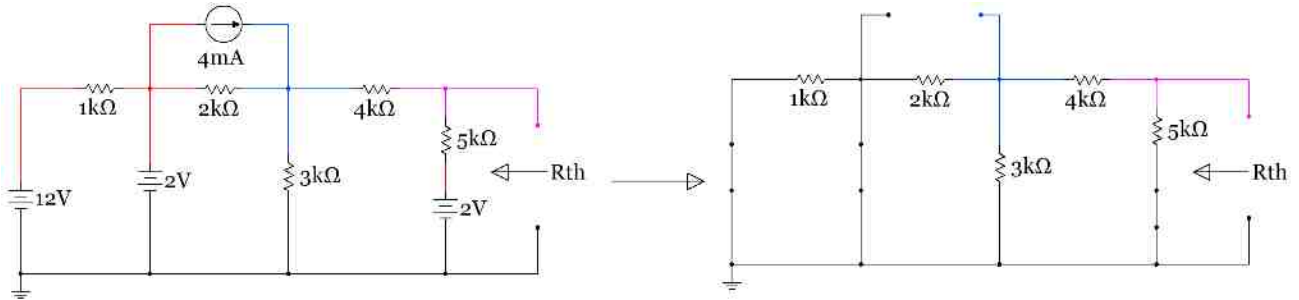

Figure 2.49: Sub-problem 1 circuit with sources replaced with shorts and opens (or “zeroed out”)
**Sub-problem 1** – Find  $R_{th}$  by zeroing out the sources and combining the resistors as shown in Figures 2.49 and 2.50.